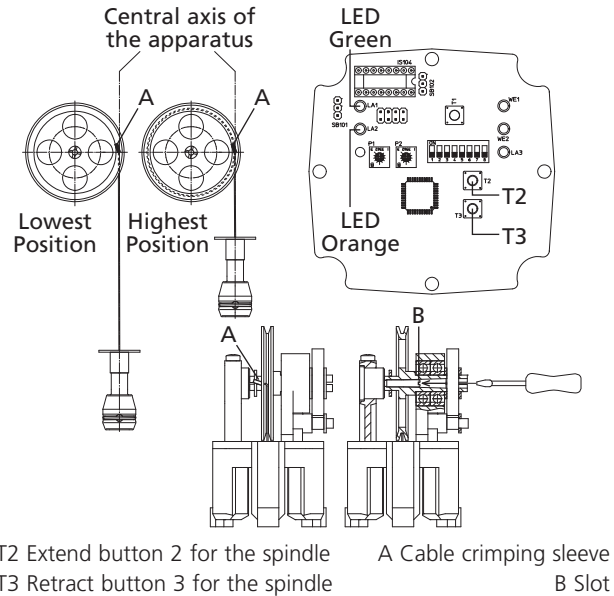

Fig 5.6 Basic setting of the position measuring system
- 1 Bring the actuator spindle, with its position measuring system coupled to it, into the maximum or minimum possible position. This can also be detected at the position of the pulley (position the cable crimping sleeve (A) Fig 5.6).
- 2 Turn off the device and bring the red hand lever (39) from position AUTO into position MAN.
- 4 Turn on the device by turning the red hand lever (39) to the AUTO position. Then release the button (T3).
- 6 When you have found the slot (B) of the angle encoder magnet shaft (Fig 5.6), turn until the green LED goes off and the orange LED lights up immediately or vice-versa. Prevent the pulley from turning by holding it firmly. The optimum position is reached when both LEDs light up or flicker at the same time. Avoid higher axial pressure on the handle of the screwdriver to prevent the magnet shaft of the angle encoder from being pushed out of its seat in the hollow shaft of the rope wheel.